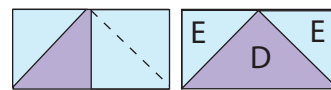

Fig. 3
2. Using the flip and sew method, sew (1) 4 ½" Fabric E square on the right side of the 4 ½" x 8 ½" Fabric D strip from Step 1 to make (1) EDE unit (Fig. 3).